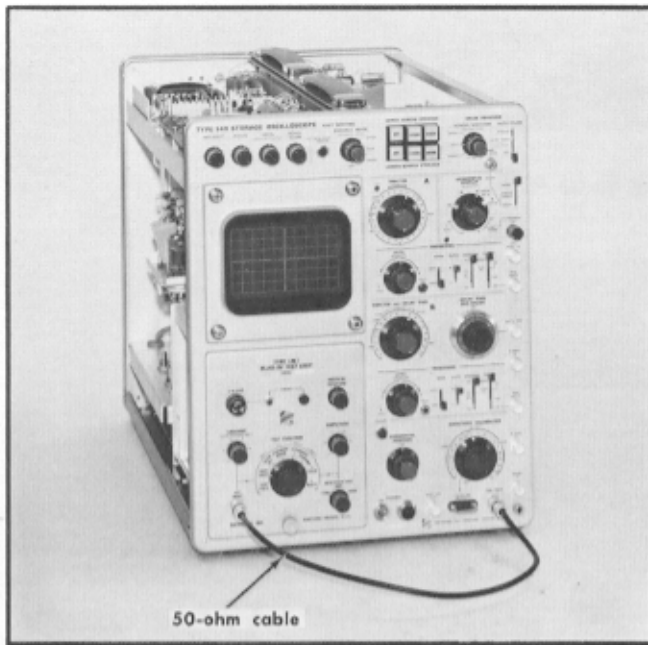

Fig. 6-21. Equipment setup for step 25.
- a. Equipment setup is shown in Fig. 6-21.